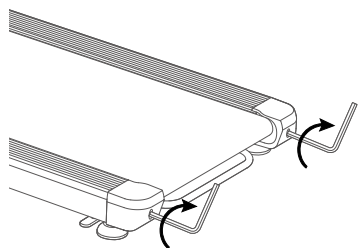

Figure 3
2. Using the **hex tool**, turn both idler roller screws clockwise **1/2** of turn(refer to figure 3).